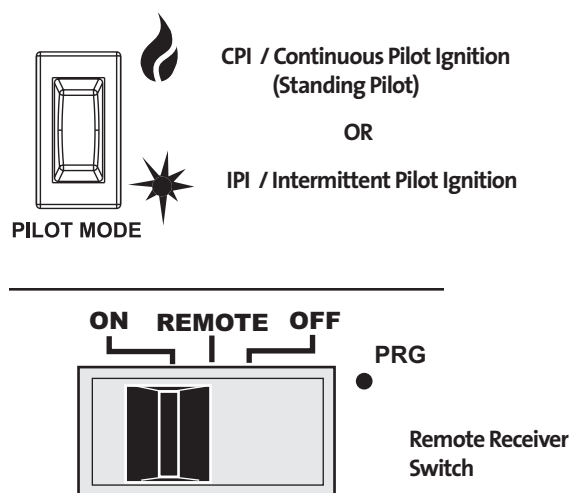

Figure 6.19. Initial system settings.
2. **Slide the Remote Receiver switch to the ON position**. The ignitor will generate spark in either IPI or CPI pilot modes. See fig. 6.19.